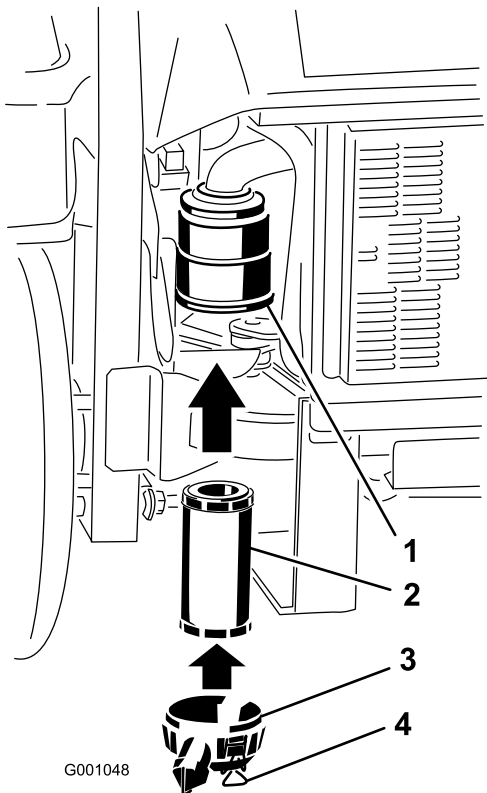

Figure 56
2. Carefully slide the filter into the filter body (Figure 56).
3. Install the air-cleaner cover and secure the latches (Figure 56).